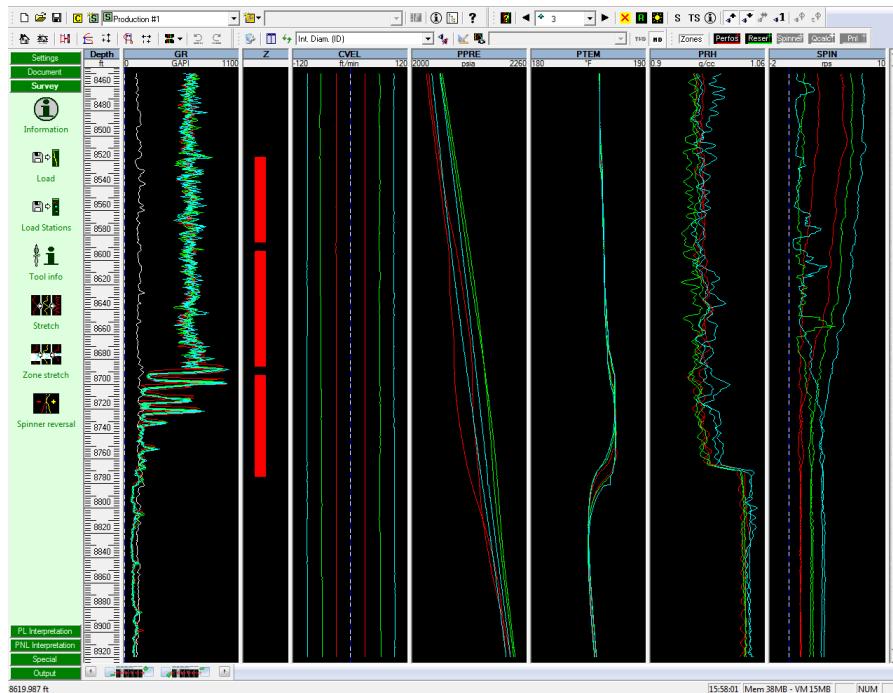

Fig. B02.5 • Production data loaded: Gamma ray plot rescaled: ID hidden
- Hide the ID plot by dragging its title bar outside the plot area and select 'Tile', Fig. B02.5.